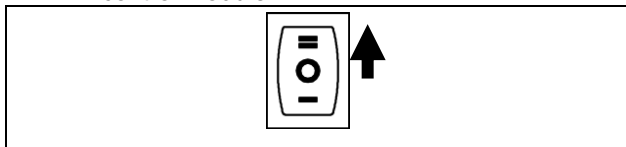

Figure 6: Switch to remote mode
- Switch from O to II as Remote mode. (see Figure 6)